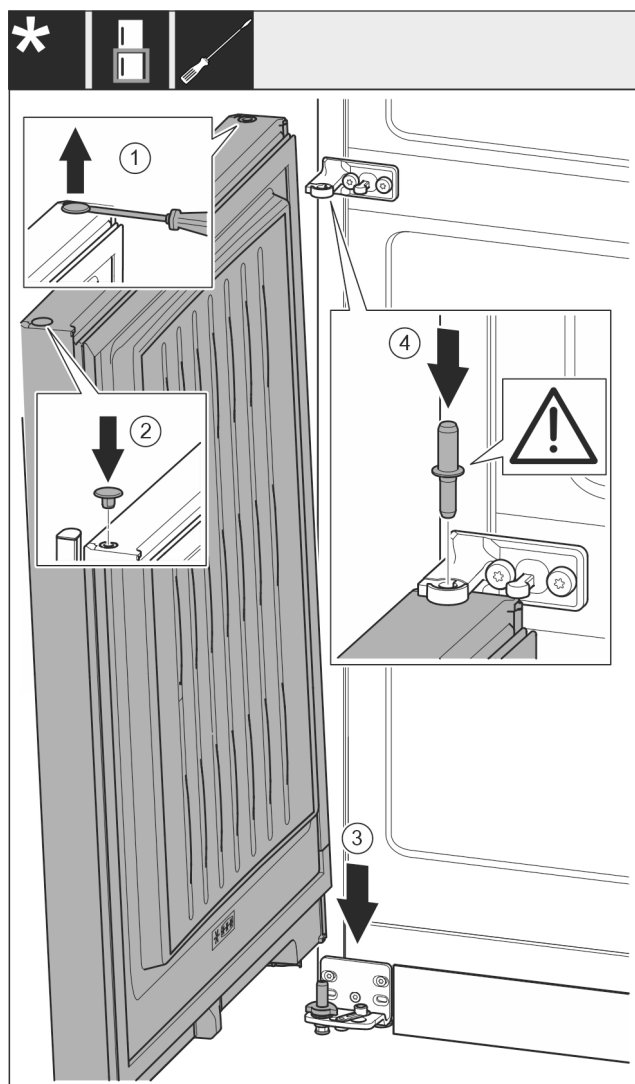

Fig. 29
- Carefully lift up the plugs with a slotted screwdriver and pull them out. Fig. 29 (1)
- Insert the plugs again on the other side of the door. Fig. 29 (2)
- Place the door onto the lower bearing pins from above. Fig. 29 (3)
- Insert the centre bearing pin through the centre bearing bracket into the lower door. Make sure that the latching lug is pointing to the rear. Fig. 29 (4)